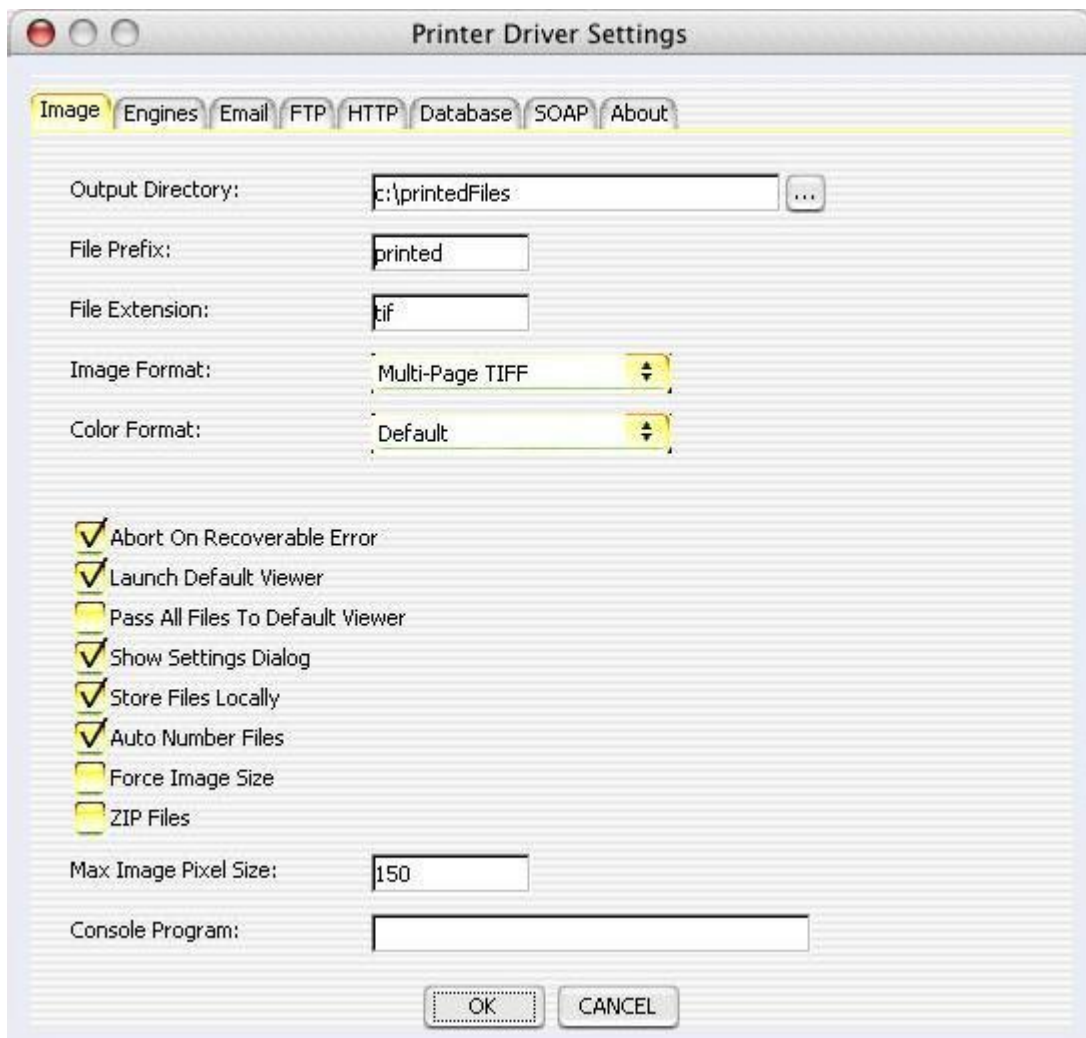

FIGURE 1
The driver has several standard options and settings in order to produce and save the images created. Figure 1 refers to these options.
- 6) Remote File Name – This is the filename prefix to be used for the files being uploaded. They will be assigned an incremental number in the same manner as the 'File Prefix' from Figure 1, only this time it will be on the remote server.